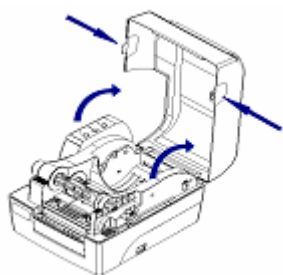

Figure 2.4.1
- 1) **Push up** the top cover with two hands according to the arrows in figure 2.4.1 and open it;